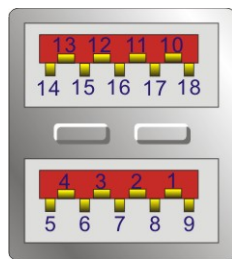

Figure 3-32: USB 3.1 Gen 2 Port Pinouts
- CN Pinouts:** See **Table 3-30** and **Figure 3-32**